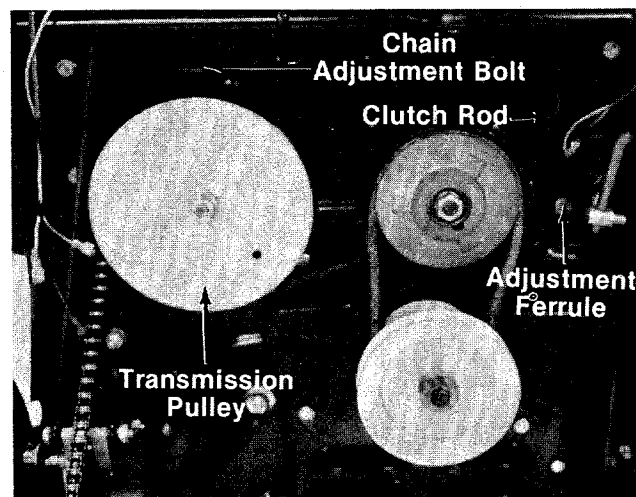

FIGURE 27. CHAIN ADJUSTMENT
CHAIN ADJUSTMENT (See figure 27)
The adjusting bolt is located under the frame, above the cutting deck on the right side of the mower. See figure 27.
3. If there is not, remove the hairpin cotter from the ferrule. Remove the flat washer and pull the ferrule out of the variable speed pulley. Thread ferrule in or out on the clutch rod as necessary. Reassemble and check for correct adjustment. See figures 27 and 28.